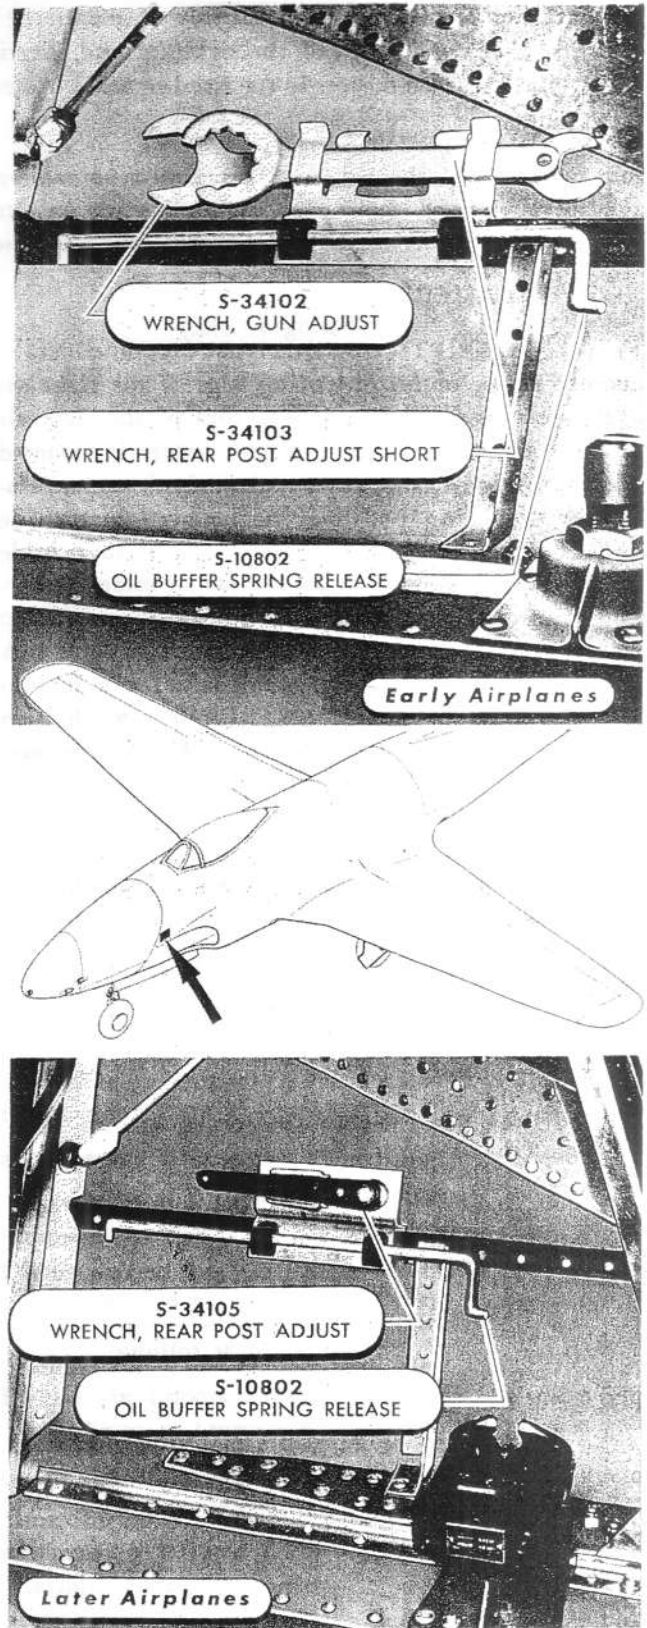

Figure 243 — Armament Tools Installation
(4) GUN ADJUSTMENT.—Adjust each gun to its individual mark on the boresight target. Adjustment for both elevation and azimuth is at the rear support of each gun. Use tools from either the type J-1 or type J-2 boresighting kit, and No. S-34102 and S-34103, or S-34105. (See figure 243.) Better results will be obtained by using the breech sight rather than the muzzle sight for the left inboard gun, as this gun is located so far back in its blast tube.
(5) SIGHT ADJUSTMENT.